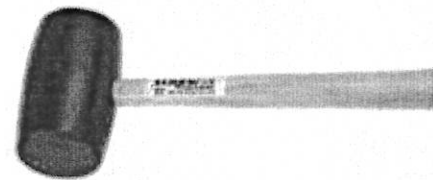

Figure 1
6. What is the function of the tool in Figure 1? [CLO1]